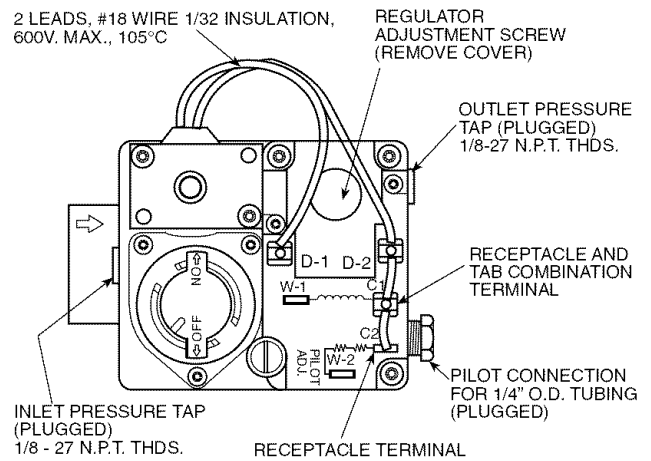

Fig. 40 — Gas Valve
6. Remove screw cap covering regulator adjustment screw (see Fig. 40).